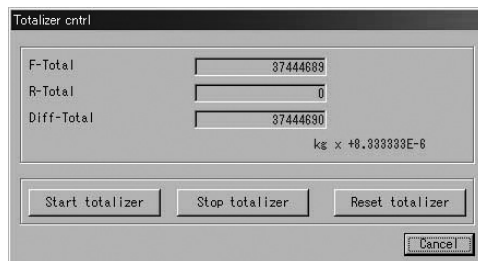

Fig.19
- ③ To hide the H/L alarm message box, click on "Cancel."
- ① Click on "Process Variable (V)" at top-level menu on the screen, select "Totalizer cntl", and click on again. A message box for measuring the total flow appears as shown in Fig. 19.